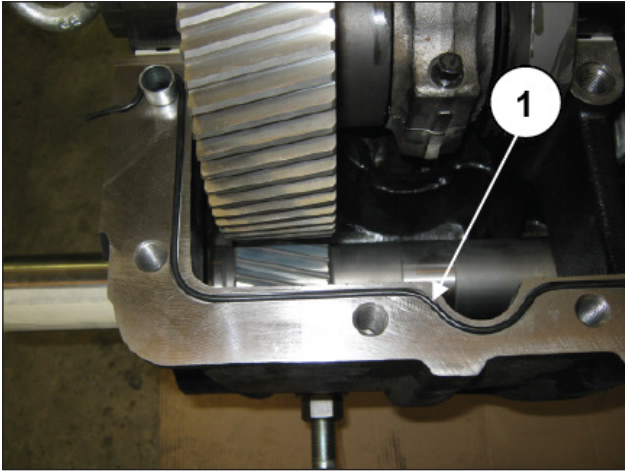

Fig. 35
Remove all the O-rings from the seats on the front casing mating surface and renew them if necessary (pos. ①, Fig. 35, Fig. 35/a).